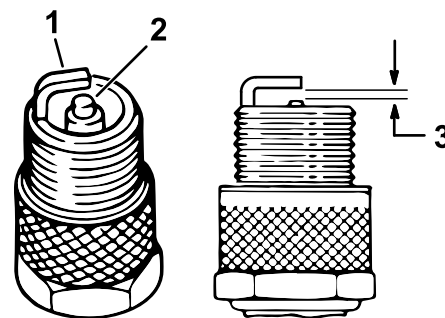

Figure 45
4. Check the condition of the side electrode, center electrode, and center electrode insulator to ensure that there is no damage (Figure 45).
5. Set the air gap between the center and side of the electrodes at or **0.76 mm (0.03 inch)** as shown in Figure 45.